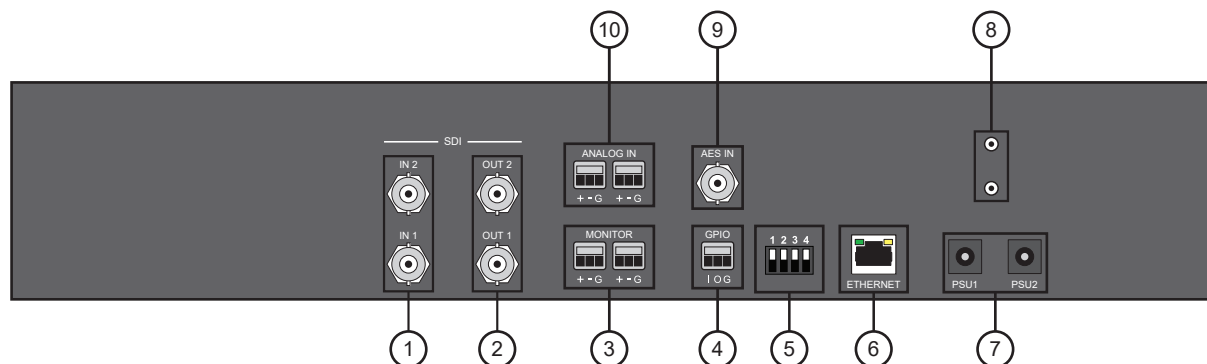

Figure 2.2 MB-652-DUO — Rear Panel
2. Connect the DC plug to the power jack located on the rear panel of the MB-652-DUO. Refer to **Figure 2.2** for power connection location.